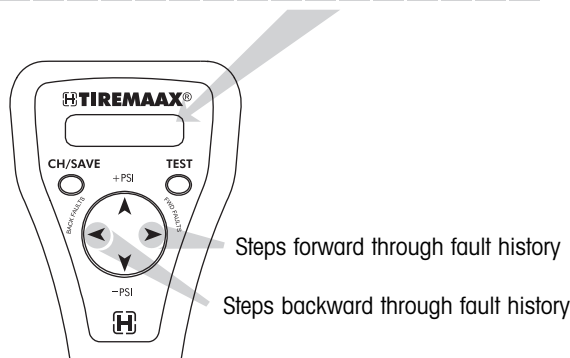

Figure 42. Stepping through the fault code history
1. Press the BACK FAULTS arrow on the direction pad to go back through the six most-recently recorded faults (figure 42).
2. Press the FWD FAULTS arrow on the direction pad to go forward through the six most-recently recorded faults (figure 42).
The upper left corner of the display identifies the fault by its relationship to the last fault (figure 42).